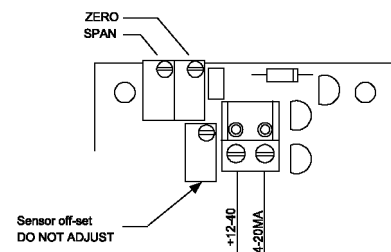

Figure 4. Wall Mount Wiring for mA Output
5. Pull the wires through the sub base hole and make the necessary connections (see the wiring diagrams in Figures 4 to 13).
3. Pull the wires through the knockout and make the necessary connections (see the wiring diagrams in Figures 4 to 13).
The humidity transducer is a 4 - 20 mA output unit powered with a 12 - 40 VDC supply. Use maximum 12 AWG wire for wiring terminals. See the wiring diagrams in Figures 4 and 5.